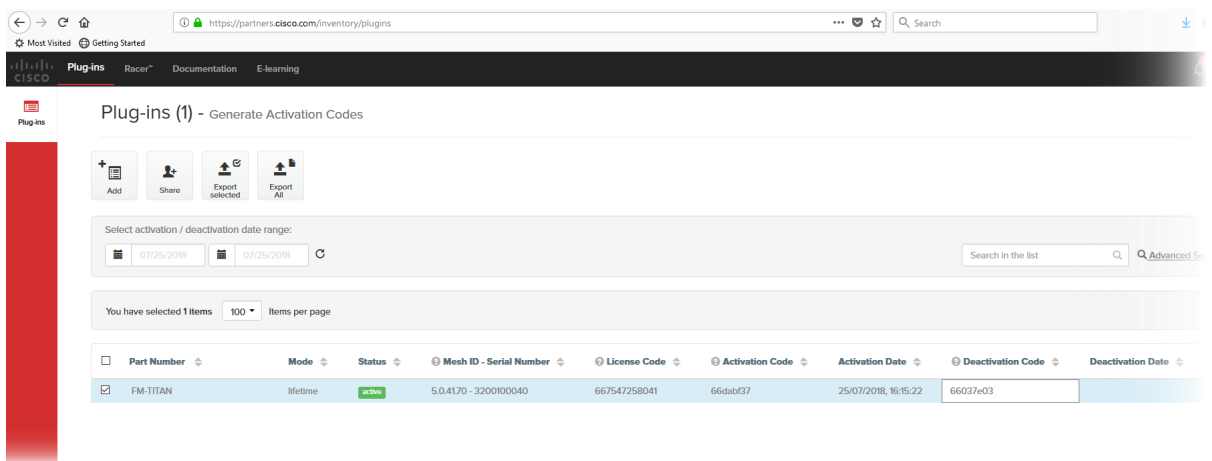

Figure 70. Partner Portal Plug-ins page (deactivation code entry)
8. Enter the Deactivation code for the plug-in in the Deactivation Code field (Figure 70 (page 157)).